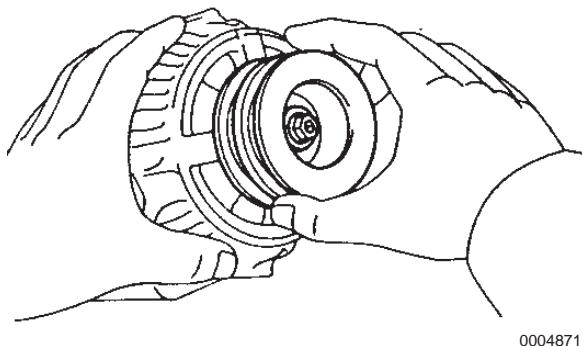

Figure 11-45
13. After final assembly, rotate the rotor pulley to ensure the rotor rotates smoothly (**Figure 11-45**).